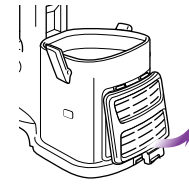

Fig. 26
- 1 Remove the filter cover from the front of the vacuum by pulling up on the tab and pulling the cover away from the vacuum. (Fig. 26)